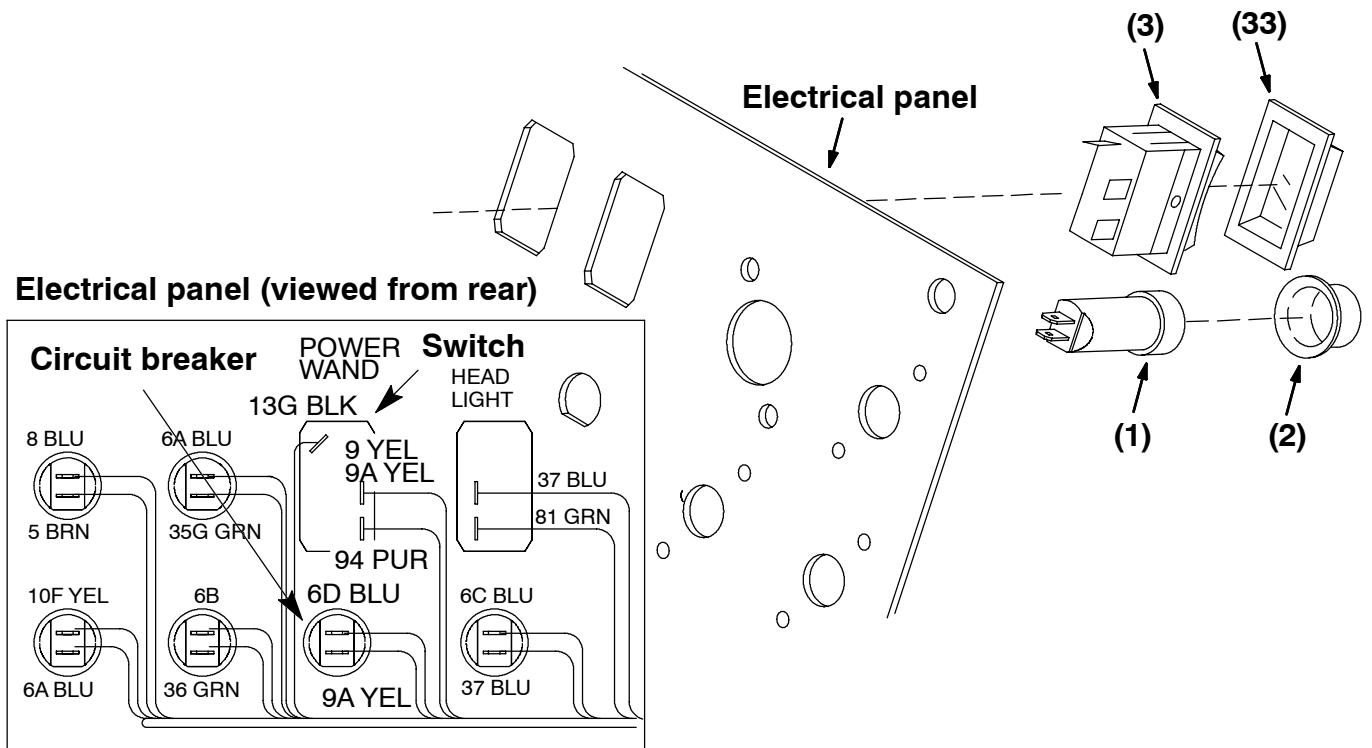

FIG. 1 - Switch And Circuit Breaker
INSTALLATION: (Refer to FIG. 1 through 9)
2. Install the switch (3), switch boot (33), circuit breaker (1), and circuit breaker boot (2) into the electrical panel. (Refer to FIG. 1)
5. Close the electrical panel. (Refer to FIG. 1)